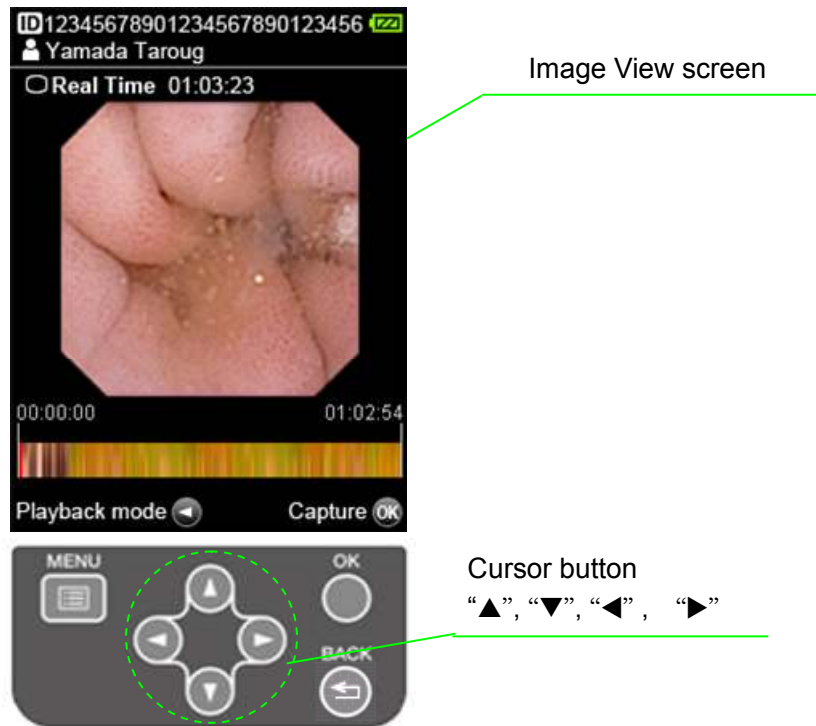

Fig 4.29
2. Push the "◀" on Image View screen shown below. (See Figure 4.29)